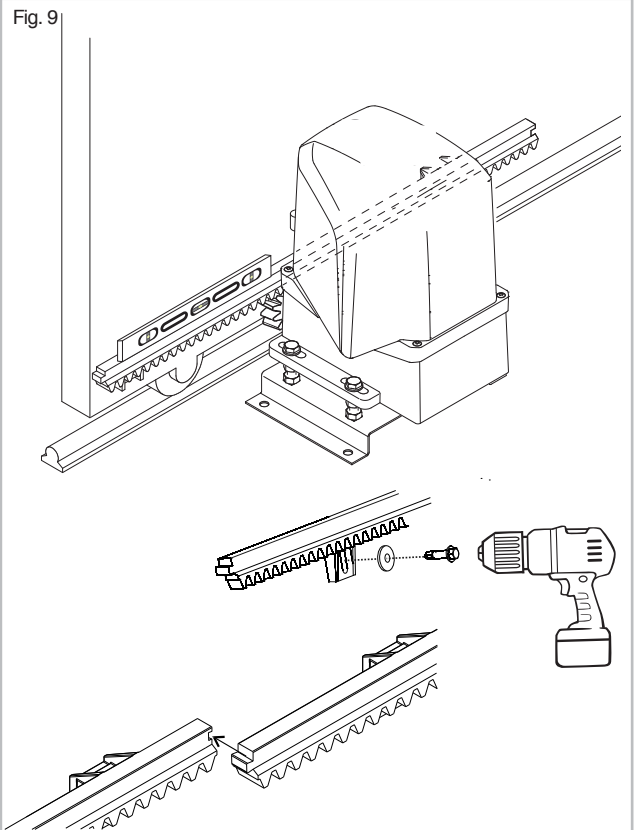

Fig. 9
- Fix this first section of rack to the gate with the provided self-tapping screws. Fix the screws in the middle of the slot as illustrated (Fig. 9).